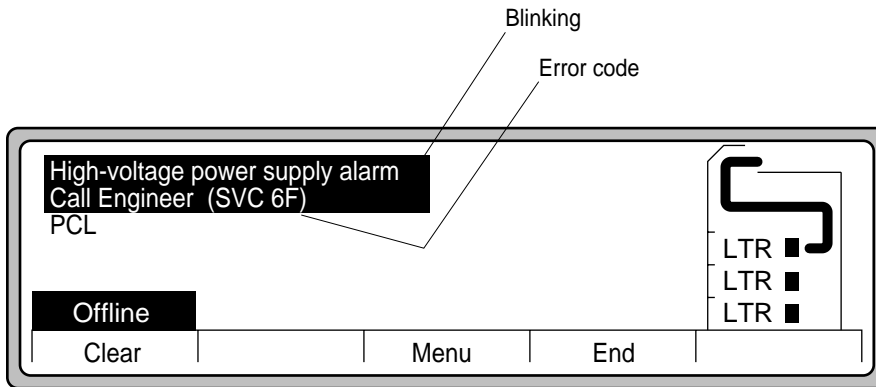

Figure A-2 Call Engineer (Service Representative)
1. The printer may self-diagnose the problem and display the message as shown in Figure A-2, on page A-2.